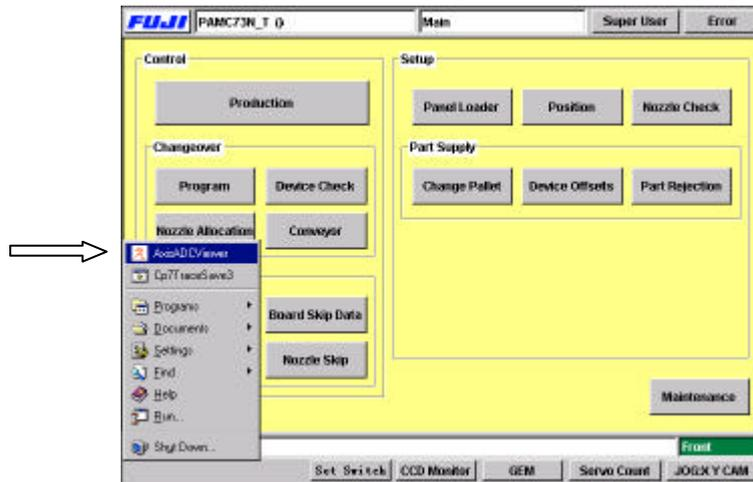
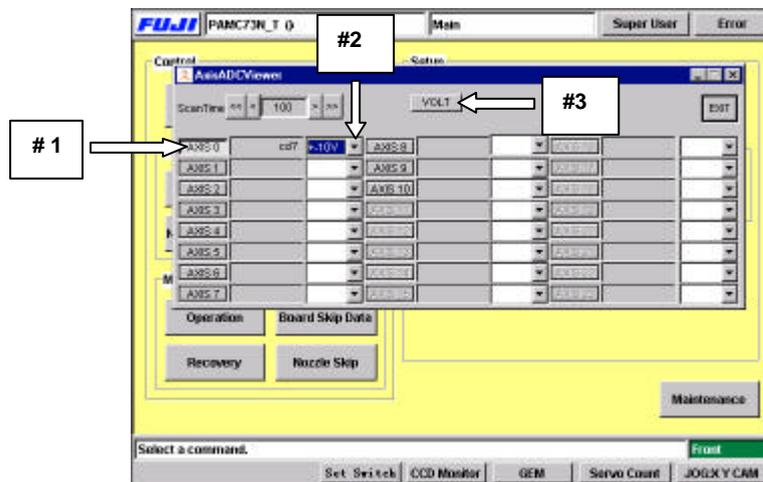

Figure 5
Figure 6
2. Press the [Windows key] on the keyboard and go to the voltage adjustment display by selecting, [AxisADCViewer] (Fig 5) → [Axis 0] (Fig.6 #1) → [select ±10V] (Fig.6 #2) → [VOLT] (Fig.6 #3)